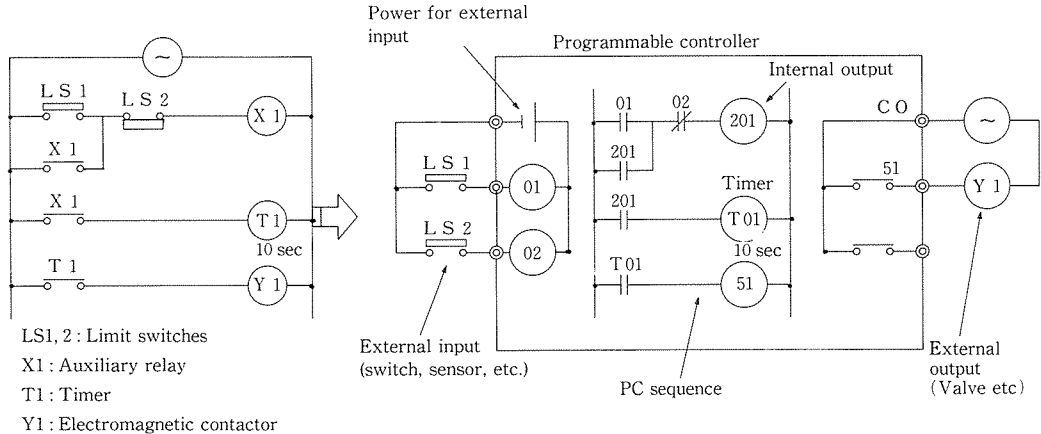

Fig. 3-1 Replacement of Relay sequence for PC
Fig. 3-1 shows a programmable controller (PC) sequence replaced from a relay sequence. The PC should be wired for external input and output, and PC sequence be input via programmer.